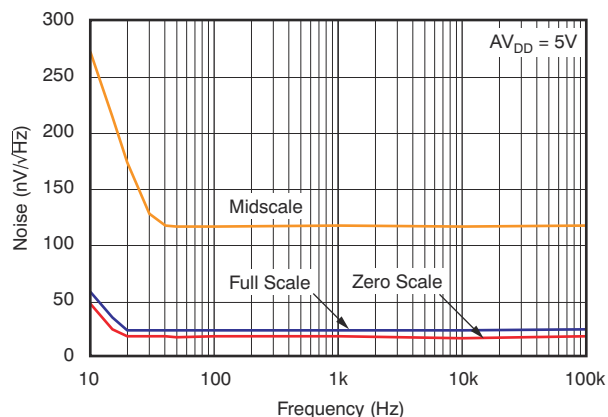

Figure 7-23. DAC Output Noise Density vs Frequency
(1) Linearity calculated using a reduced code range of 3 to 252 for 8-bit, 12 to 1012 for 10bit, and 30 to 4050 for 12-bit, output unloaded.
(2) Straight line passing through codes 3 and 252 for 8-bit, 12 and 1012 for 10-bit, and 30 and 4050 for 12-bit, output unloaded.
(3) Specified by design and characterization, not production tested.
(4) For more details, see Figure 7-23.